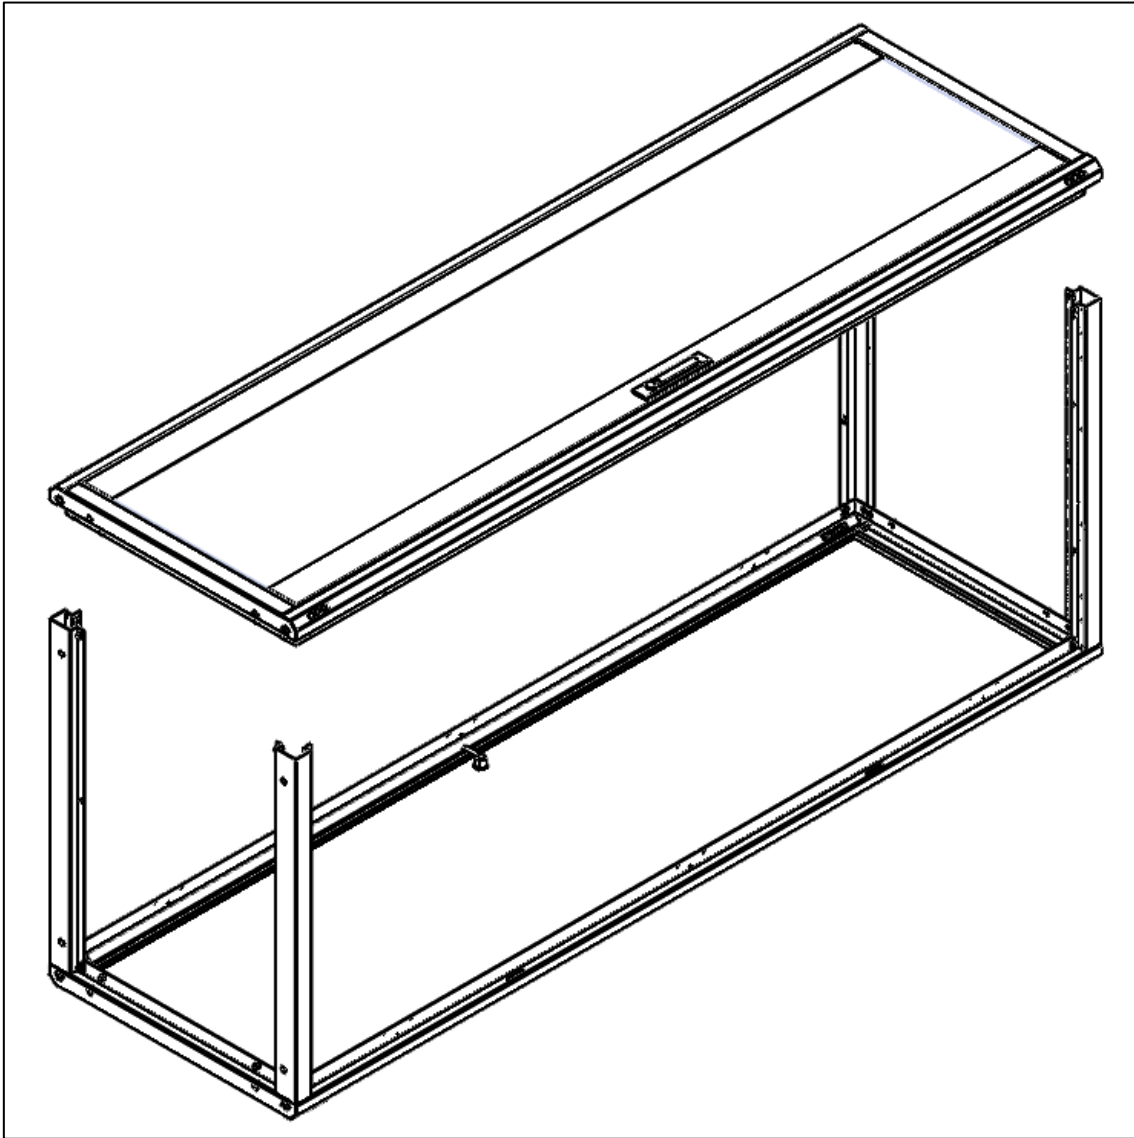

Figure7
(1) Place the Front welded frame as shown on the **Figure 7**